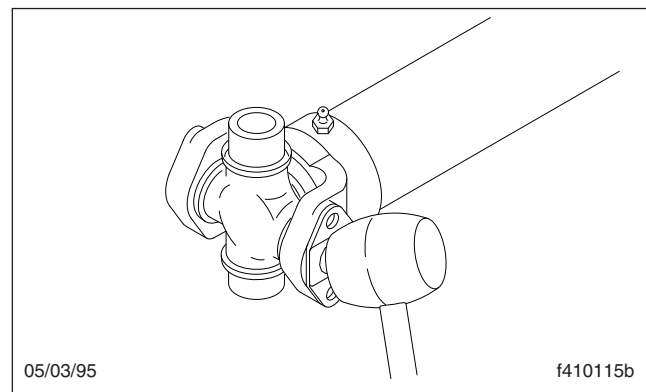

Fig. 9, Seating a U-Joint Bearing Cup In a Full-Round Yoke
- 4.3 By hand, press the bearing-cup-plate flush with the face of the yoke. If the bearing cup binds in the cross-hole, tap the *center* of the bearing-cup plate with a leather or rubber mallet; do not tap the outer edges of the plate. See **Fig. 9**.